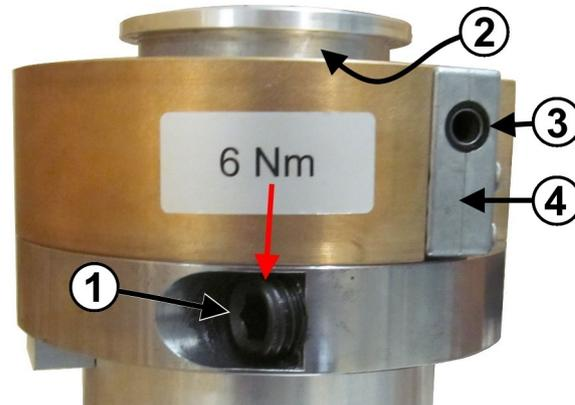
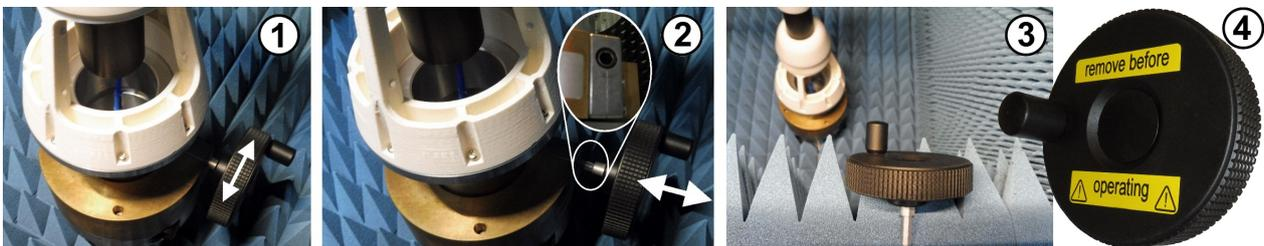
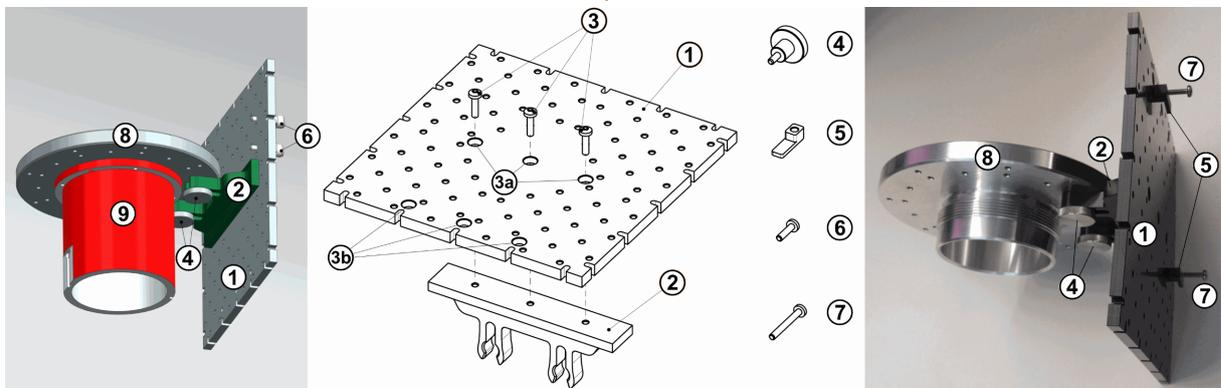

Figure 7-2: Turntable with clamping screw and crank drive
Figure 7-3: Turntable's crank
Figure 7-8: Holder set for carrying a printed circuit board (PCB) in addition to a DUT
4. Insert the crank (labeled 4 in Figure 7-3) into the hexagonal socket (labeled 3 in Figure 7-2).
5. Rotate the crank (Figure 7-3) until the DUT's height is adjusted correctly to the horizontal laser crosshair.
- 5 = Crank drive for lifting or lowering the turntable (remove crank before operating the arm; see Figure 7-3)
- An **expert user** has fixed the PCB on the PCB holder by clamping claws and screws (labeled 5 to 7 in Figure 7-8).
- An **expert user** has fixed the DUT holder's metal base plate (8) on the turntable (9).
- An **expert user** has fixed the PCB holder below the base plate, considering the position of the turntable's crank (Figure 7-3).
An **expert user** can assemble the PCB holder set using the centered (3a) or lateral (3b) assembly holes, as labeled in Figure 7-8.